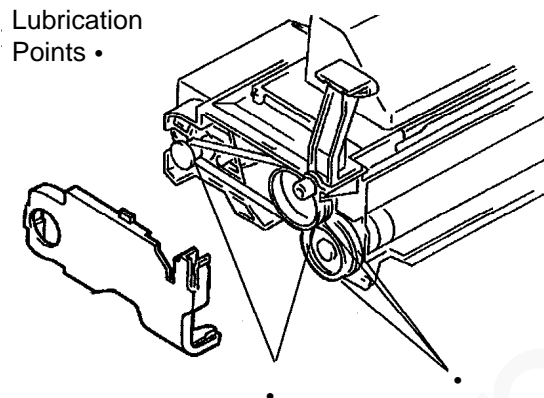

Figure 1. Developer assembly
5. Lubricate the the developer drive pulleys with silicone grease, P/N 070P00027 (figure 1).
6. Lubricate the gears with oil, P/N 070P00095 (USO) or P/N 600T90393 (RX) (figure 1).